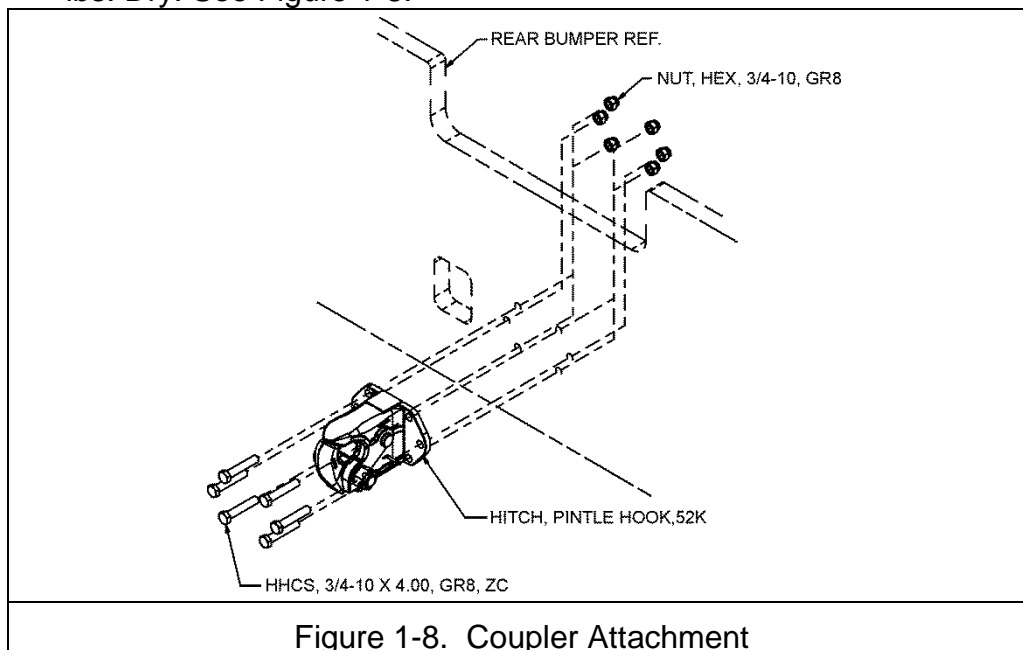

Figure 1-8. Coupler Attachment
5. Check (6) 3/4-10x4.00 Grade 8 mounting fasteners for proper torque, 376 ft-lbs. Dry. See Figure 1-8.